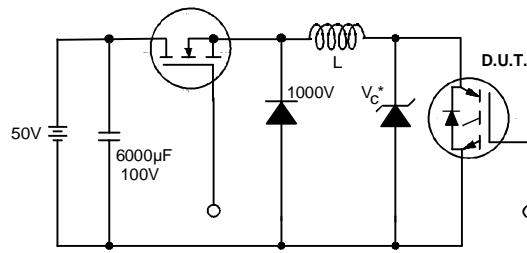

Figure 19. Clamped Inductive Load Test Circuit
- ②  $V_{CC}=80\% (V_{CES})$ ,  $V_{GE}=20V$ ,  $L=10\mu H$ ,  $R_G = 50\Omega$  (figure 19)
- ③ Pulse width  $\leq 80\mu s$ ; duty factor  $\leq 0.1\%$ .
- ④ Pulse width 5.0 $\mu s$ , single shot.